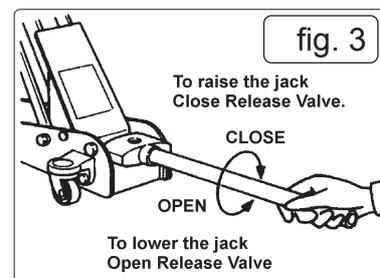

fig. 3
- 4.3.1. Open the release valve by turning it one full turn counter-clockwise. See fig.3.
- 4.3.3. Close the release valve by turning it clockwise. See fig.3.